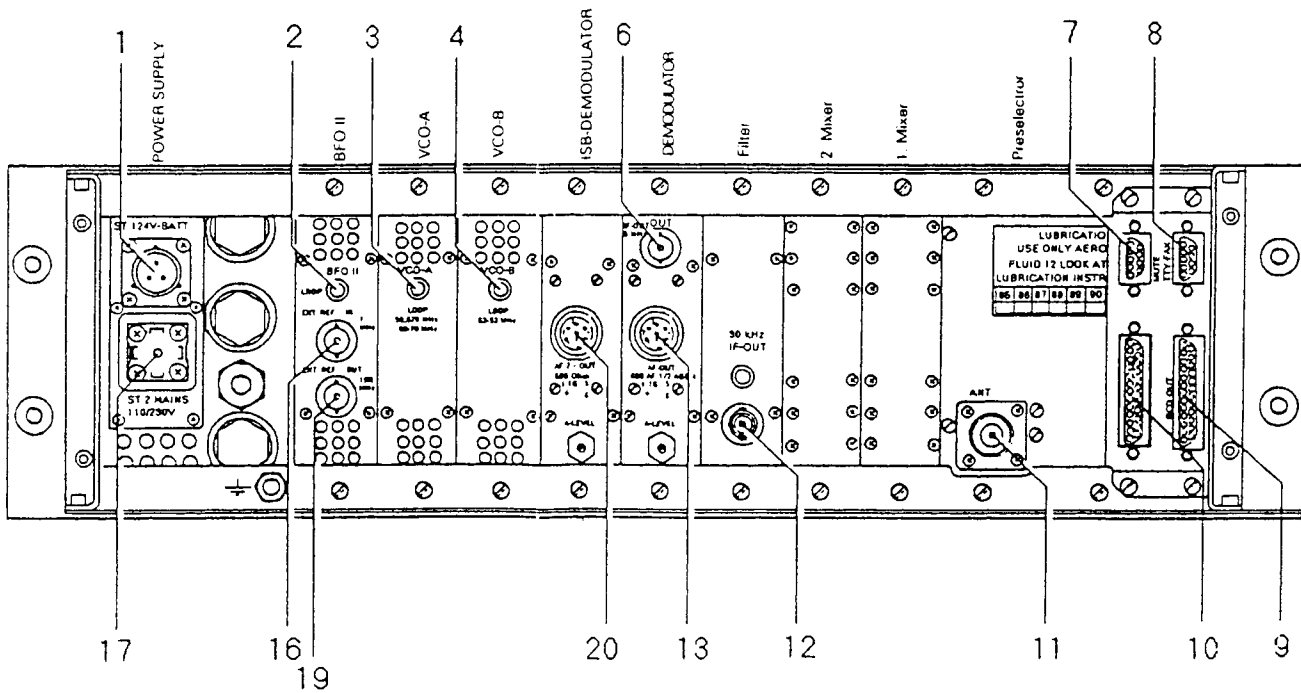

Fig. 3-2
- unscrew mounting screws (A) on the front panel. Captive screws are used.
- remove all cable connections on the rear panel -refer to fig. 3-2-